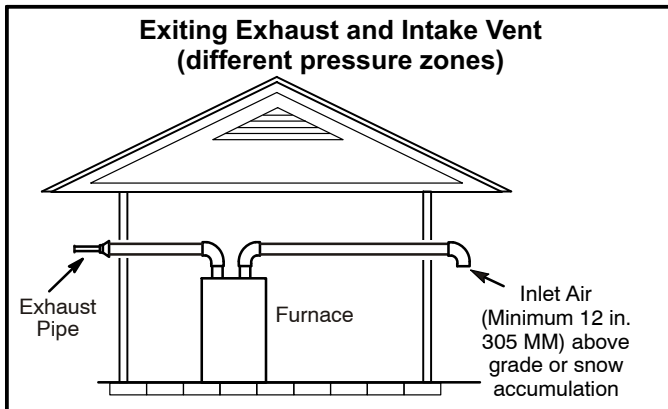

FIGURE 30
1. Intake and exhaust terminations are not required to be in the same pressure zone. You may exit the intake on one side of the structure and the exhaust on another side (figure 30). You may exit the exhaust out the roof and the intake out the side of the structure (figure 31).